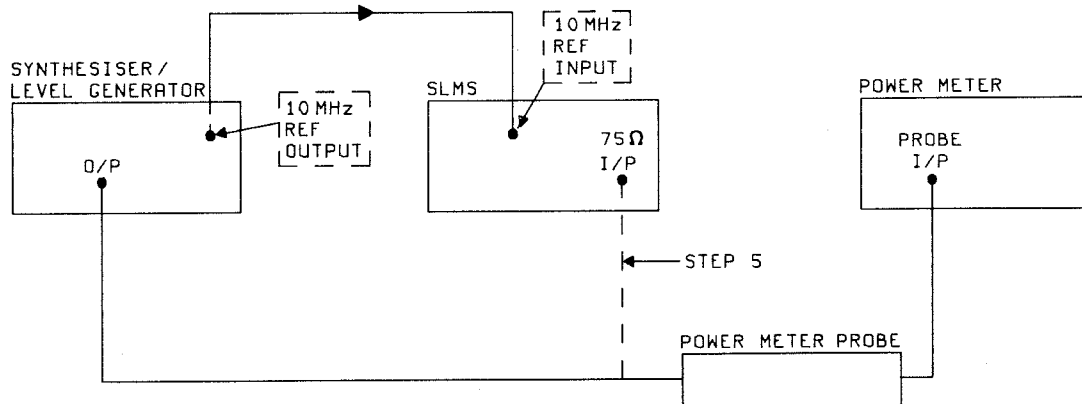

Figure 5-2 0dBm Level Adjustment Test Set-up
A stable 1MHz reference source is formed as shown in Figure 5-2. The IF signal level is checked at the output of the 2nd MIXER and adjusted as necessary. The calibration signal at the A4 Assembly is adjusted against the 0dBm reference. The IF RMS to DC Log Converter on Assembly A21 is adjusted to set a precise A/D output on AVE 2 (0.01dB resolution), AVE 1 (0.1dB resolution) and AVE 0 (1dB resolution) with the Input at 1MHz. Finally the SLMS frequency response is checked and adjusted as required.
- 1. Set up the equipment as shown in Figure 5-2.